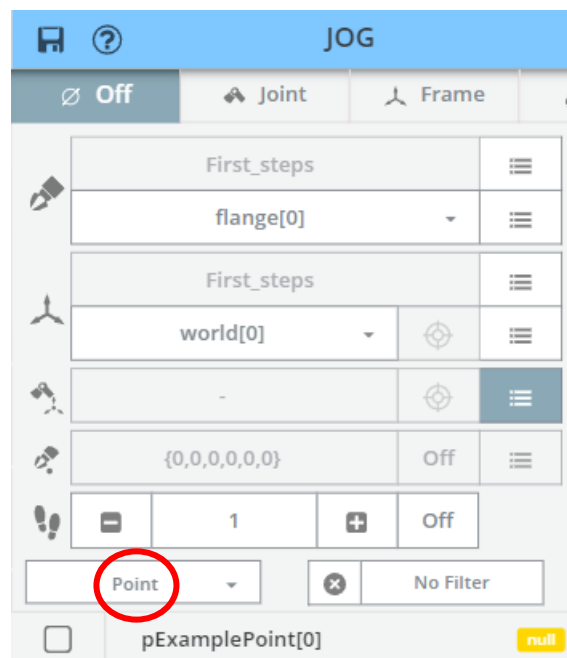

Figure 23: Display of the **point** variables (`pExamplePoint` in the present case) in the **JOG** menu.
- or by pressing the **Line** button , which appears at top right of the window shown in the figure 23, so that the TCP joins pExamplePoint *point* in a **straight line**. Note that the calculation of the movement is done in Cartesian space, so the movement is not always possible!
Go to the **JOG** menu to view the Cartesian variables of the `First_steps` application, as described in **3.2**, resulting in the page shown in the figure below (identical to figure 23):